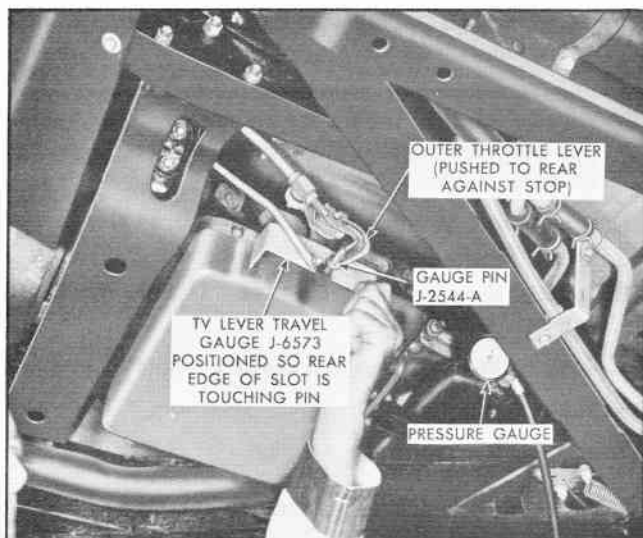

Fig. 3 Testing TV Pressure
6. While holding lever in this position, place TV lever travel gauge J-6573 against side of transmission pan so that gauge pin in lever is touching rear of slot (Fig. 3).